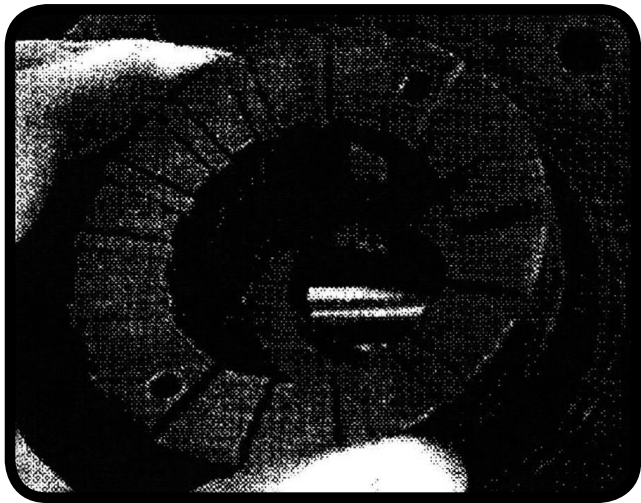

Figure 12
6. Turn the top driver over and hold it so that the stop pins line up with the springs in the lower driver. Carefully lower it until the pins rest on the discs (**Figure 12**). Push it up and down to be absolutely sure that all springs and pins are in place and are functioning properly. Proper operation of the parts at this point is **very** important!